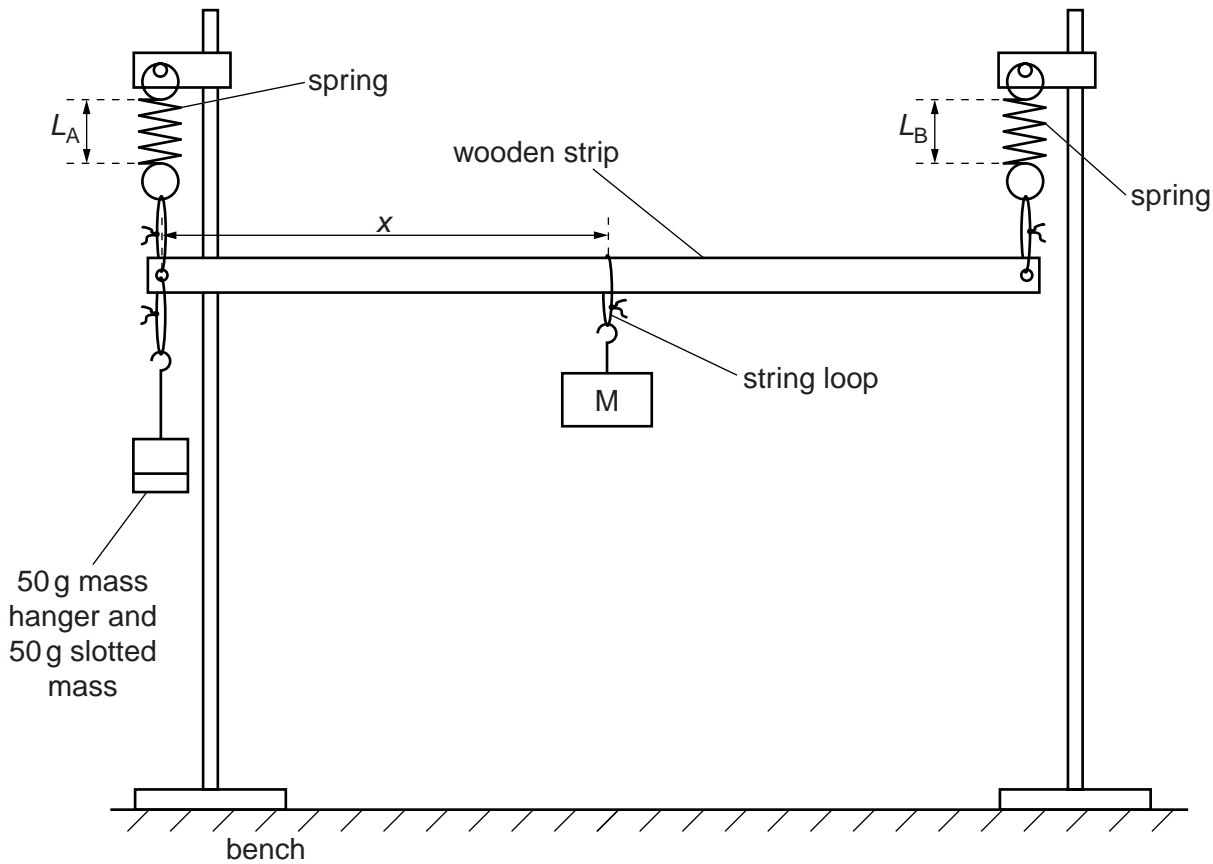

Fig. 1.2
- (b) (i) Assemble the apparatus as shown in Fig. 1.2, with the mass M near to the middle of the wooden strip.
- (iii) Measure and record the distance x from the left-hand hole in the wooden strip to the string loop supporting M , as shown in Fig. 1.2.